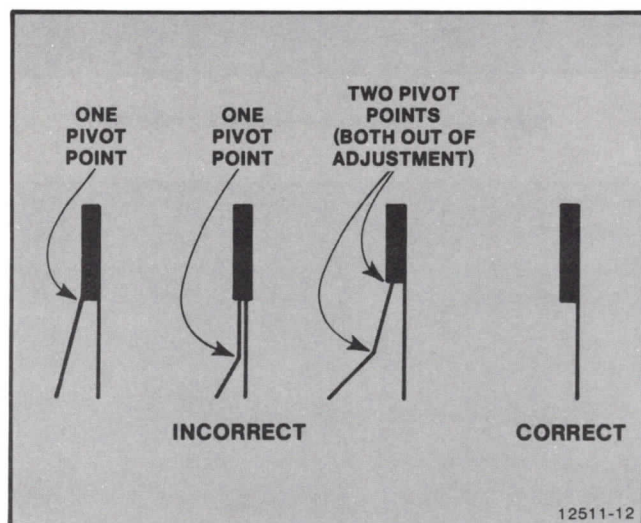

Figure 4-13. X and Y Axis Frequency Compensation Adjustments.
- ADJUST — R51 (LA Short) and R150 (LA Long) on the Deflection board so that only one line can be seen. Refer to Figure 4-13.
- ADJUST — R69 (SA Short) and R167 (SA Long) on the Deflection board so that only one line can be seen. Refer to Figure 4-13.